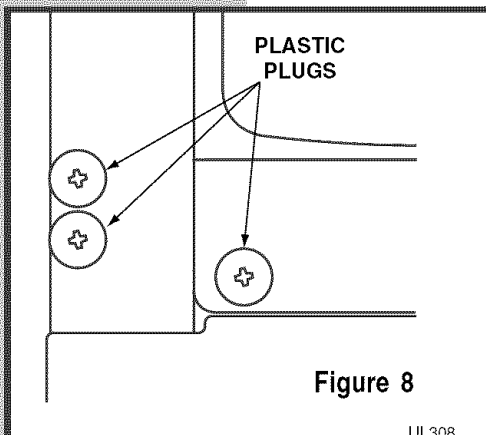

Figure 8
- 2 Remove plastic screw plugs (3 top and 3 bottom) from new hinge location (see **Figure 8**), and remove hinge pin hole plug in top of door (see **Figure 9**). Do not discard.